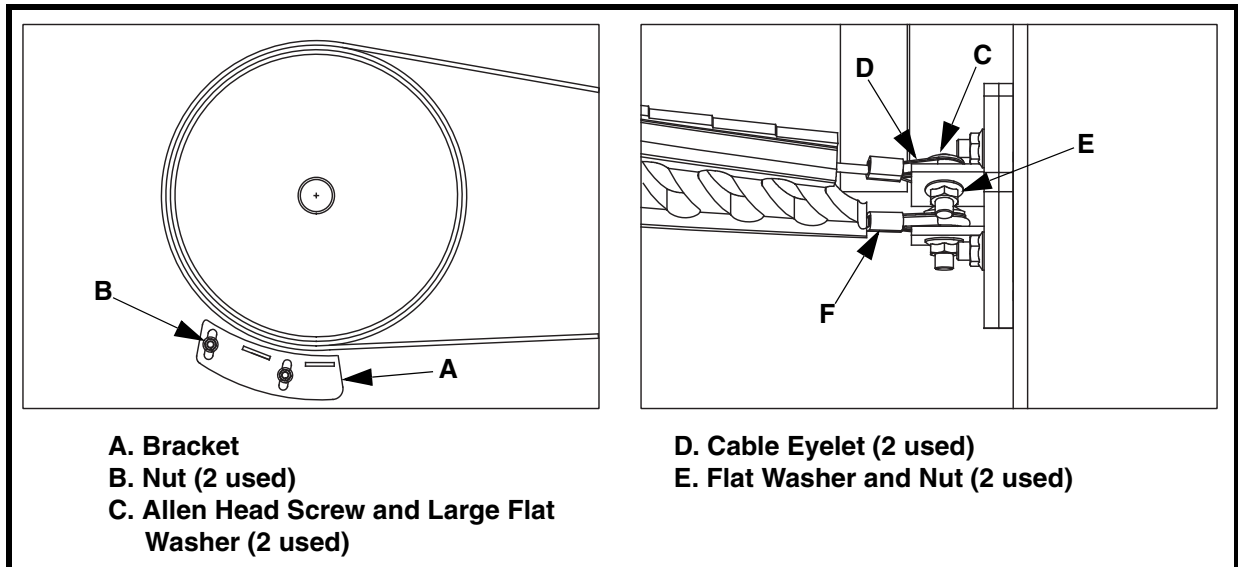

**Figure 5. Belt Cleaner Location & Chute Wall Cutouts**
- (1) Position fixed point bracket on far side chute wall as shown in Figure 5. Align bolt hole on bracket with head pulley center line.
- (2) Mark bracket hole locations.
- (3) Drill or cut two 12.7 mm (1/2-in.) holes for screws in far side chute wall.
- (4) Mount fixed point bracket to inside of far side chute wall using countersunk screws and nuts.
- (2) Weld bracket to chute wall. Weld completely around bracket. Do not skip weld.
- a. Mark chute wall cutouts as shown in Figure 5.